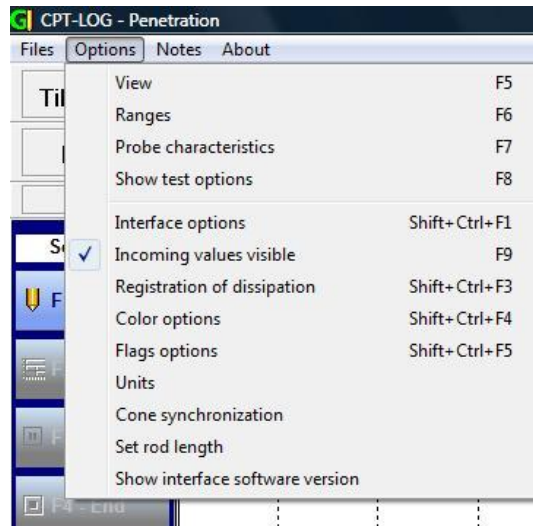
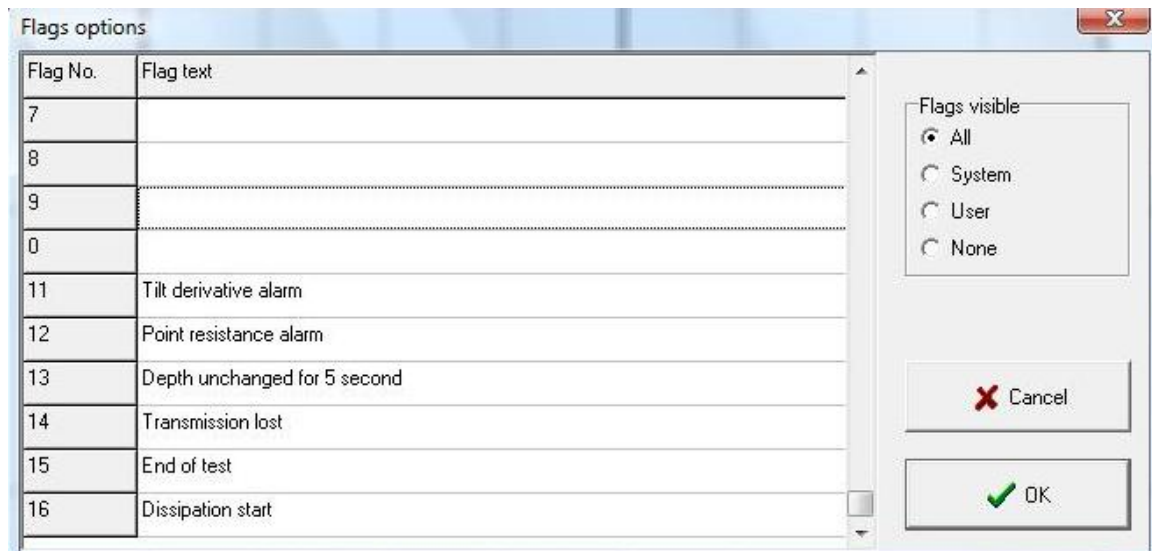

Fig. 3-2: Options Menu
Fig. 3-8: Flags, Press Shift+Ctrl+F5
The Bar Menu (Fig. 3-2) consists of [Files], [Options], [Notes] and [About]. Under [Files], the user can exit (Ctrl+X), under [Options], all settings for Penetration are set, [Notes] is presently inactivated as the new Flag function is introduced with this CPT-LOG version (Fig. 3-8). Under [About], the user can access the present manual as a pdf file. The file can be updated with more recent files from Geotech but it is paramount that it is saved in the same directory C:\Program\Geotech\Cpt-log\Manual
6. Another feature in CPT-LOG are **Flags Options** (Fig. 3-8) informing the CPT data interpreter of any artefacts, such as tilt alarm (may have generated lateral loads and erroneous point resistance values), point resistance alarm, transmission loss, unchanged depth causing spikes in the data (dissipation of the pore pressure or low point resistance and friction values) because of rod extension or breaks in the sounding. The user can define his own flags and whether to display these during the sounding.